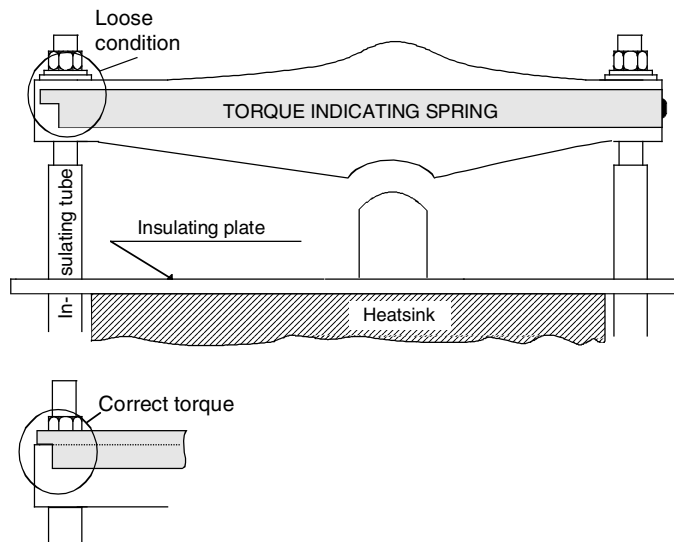

Figure 5-3 Aluminium spring with welded indicating spring
4. Loosen the mounting clamp (see figure 5-3) at the top of the thyristor stack.
8. Tighten each nut in turn, half a turn at a time with the help of a ring spanner until the indicating spring clicks into position “correct torque” (see figure 5-3). Do not tighten the screws any further.